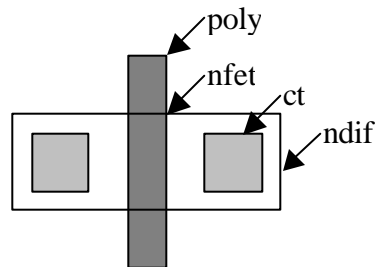

Figure 2a
- a) It is always good to get a feel for design rules in a layout editor. Fire up Micromagic **max** with the mmi25 (0.25 um) technology file or Cadence Virtuoso with 0.24um technology. Place a minimum sized NMOS transistor and examine the dimensions. The layers are listed and shown below in Figure 2a.